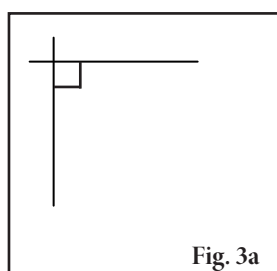
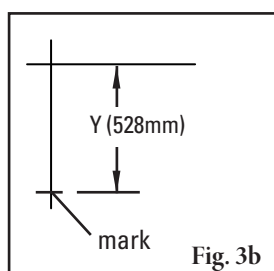
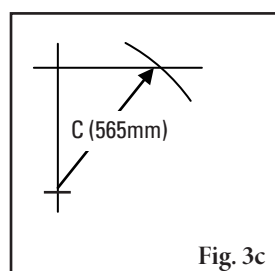

Fig. 3a
Fig. 3b
Fig. 3c
3. **Determine final dimension.** On a flat vertical surface, using a level, draw one horizontal line and one vertical line creating a right triangle (Fig 3a). Measure down from the intersection the determined “Y” dimension and mark (Fig 3b). With the tape measure starting at the modified “Y” mark, swing the tape across the “X” line and mark at the “C” dimension where it crosses the “X” line (Fig 3c). Measure from the intersection to the “C” intersection and this will be your new “X” dimension (Fig. 3d).